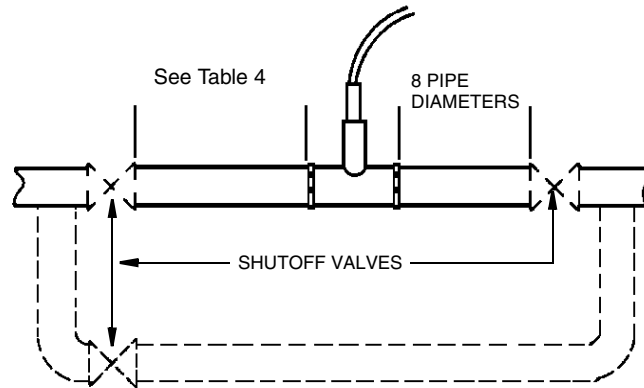

Figure 3. Bypass Piping
2. To ensure that your flowmeter performs to its fullest capabilities, it should be mounted in a straight, unobstructed pipe. The recommended minimum amount of straight pipe upstream is shown in Table 4. There should be a minimum of eight diameters of straight pipe downstream. See Figure 3.
It is sometimes desirable to provide bypass piping if the flow cannot be interrupted for servicing the flowmeter. See Figure 3.